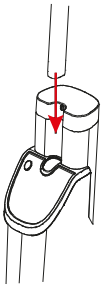

Fig. 1
2. Insert the handle into main body of cleaner until you hear a click. **(Fig. 1)**